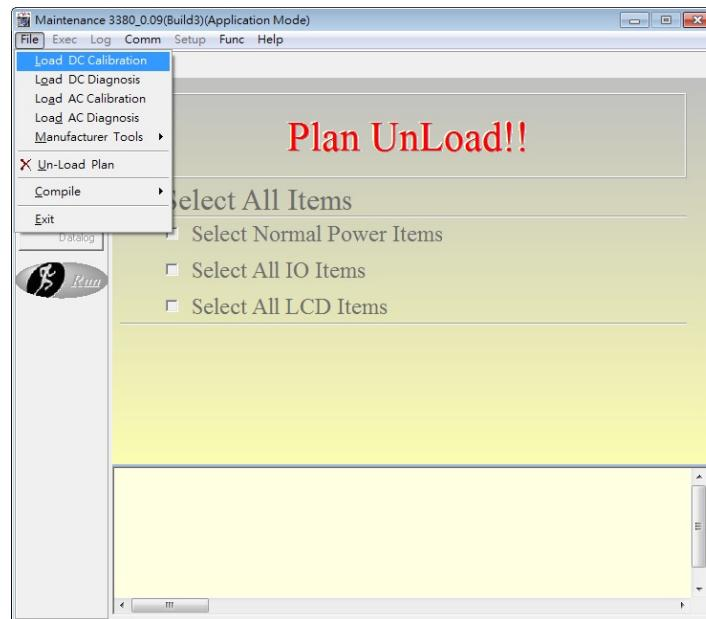

Figure 3-13 Load DC Calibration
- (4) Select *Load DC Calibration* (see *Figure 3-13*).